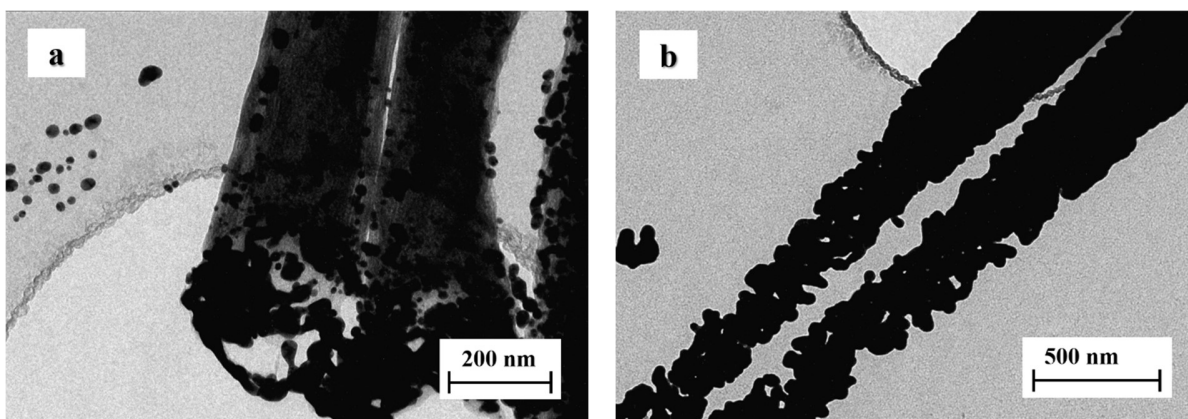

Figure S3. TEM images of 1D Au mSiO2 NTs materials with an Au deposition time (last step of the electroless deposition) of (a) 20 min and (b) 24 h.
- Figure S3. TEM images of 1D Au mSiO2 NTs materials with an Au deposition time (last step of the electroless deposition) of (a) 20 min and (b) 24 h.